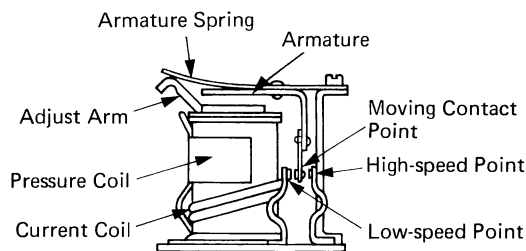

Fig. 20-31 Regulator output adjustment: to change spring tension adjustment, bend adjusting arm
**Point-Type Regulator.** Pitted points can be restored by filing to a smooth flat surface (Fig. 20-20). Fine sandpaper or fingernail emery boards are recommended by some manufacturers for this job, but be sure to clean out any grit that may remain on the points. Point-type regulators are usually adjustable by a screw-type adjuster or by bending the tang that holds one end of the points spring (Fig. 20-31). Changing the spring tension of the points changes the output voltage that the regulator is set at.